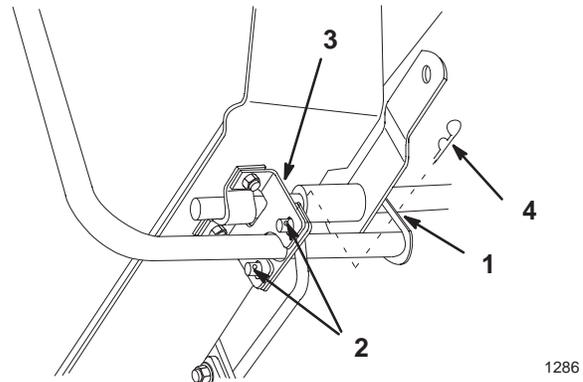

Figure 20
- Remove the hairpin cotters and unhook the rod of the crank handle support from the cross shaft (Fig. 20).